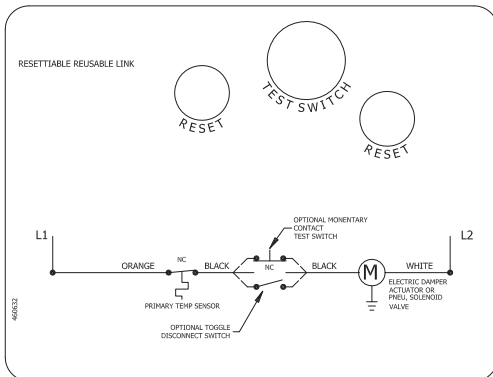

Figure 8: RRL Wiring
**RRL:** The RRL (reusable resettable link) incorporates a single thermostat. When the thermostat temperature is reached, the sensor interrupts power to the actuator and the actuator's spring return mechanism causes the damper to close. Refer to **Figure 8** for wiring of the RRL thermostat.
## Ratings (Figure 8, 9, 10, & 11)